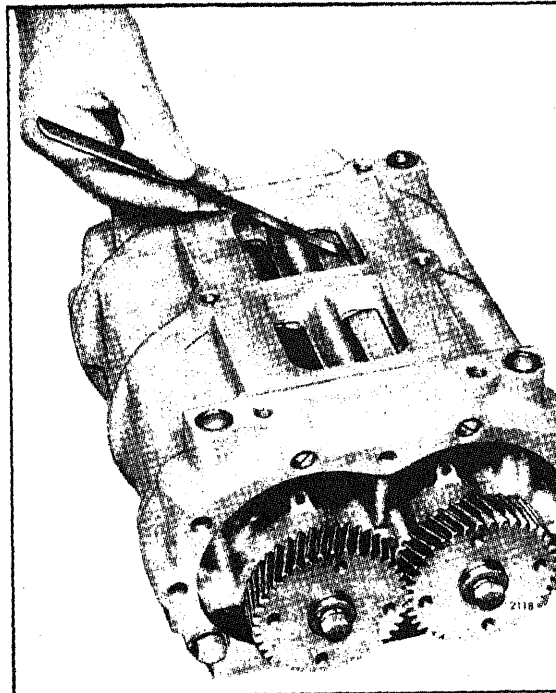
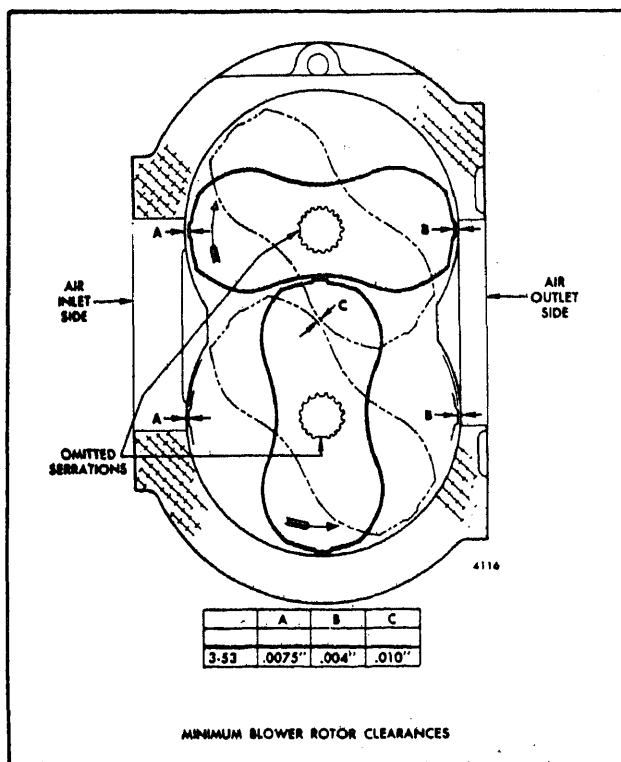

Fig. 14 · Measuring Rotor Lobe to Housing Clearance
Fig. 15 - Minimum Blower Rotor Clearance
8. Position the rotors so that the missing serrations on the gear end of the rotor shafts are 90° apart. This is accomplished by placing the rotors in a "T" shape, with the missing serration in the upper rotor facing to the left and the missing serration in the lower rotor facing toward the bottom (Fig. 14). Install the shims and spacers in the counterbore in the rear face of the rotors. Then place the gears on the ends of the
housing as shown in Fig. 14. Take measurements across the entire length of each rotor lobe to be certain that a minimum clearance of .004" exists at the *air outlet side* of all blowers and a minimum clearance of .0075" (in-line engine blower) exists at the *inlet side* of the blower (Fig. 15).
Measure the clearance between the rotor lobes, across the length of the lobes, in a similar manner. By rotating the gears, position the lobes so that they are at their closest relative position (Fig. 15). The clearance between the lobes should be a minimum of .010".